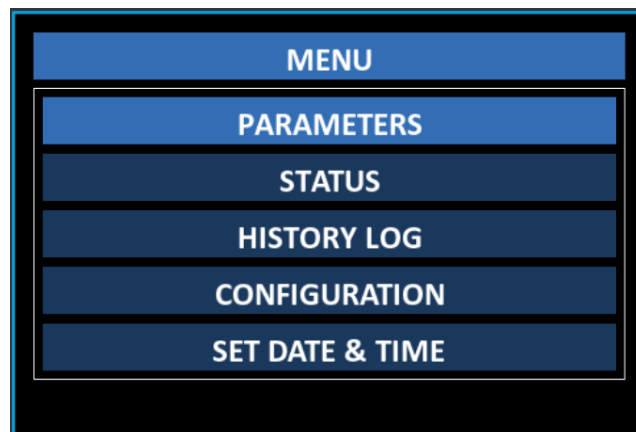

Fig 3.5: Menu Screen
- Press and hold the 'ENTER'  button for 3 seconds to open the Menu Screen. The first row will be highlighted in **blue**, indicating that the cursor is on the first row (see Fig 3.5).